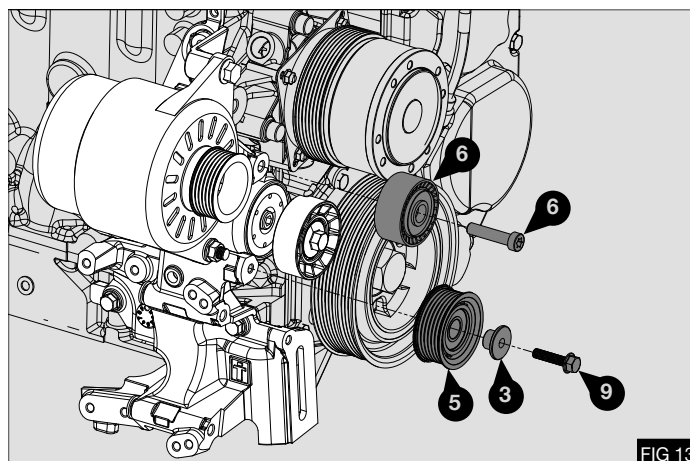

FIG 13
14. Fit reverse idler pulley assembly **(6)** - Fig 13
16. Fit grooved idler pulley **(5)** using M8 x 35 bolt **(9)** with spacer **(3)** - Fig 13